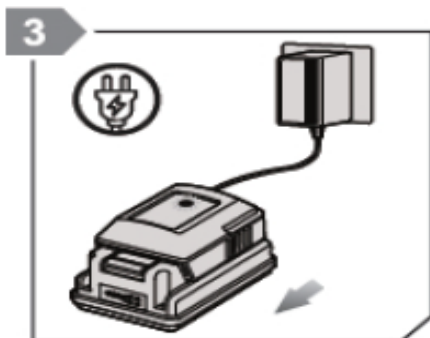

Fig. 18: Charge the battery
Step 4: Remove the battery and charge it (Fig.18)